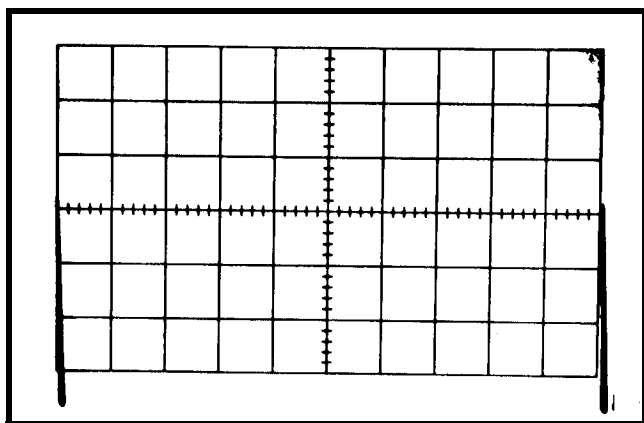

Fig. 6-47. Typical CRT display when checking delayed-sweep accuracy.
- b. Set the HORIZ DISPLAY switch to DELAYED SWEEP (B).
- c. CHECK-Using the A TIME/DIV switch, B TIME/DIV switch and time-mark generator settings given in Table 6-7, check delayed sweep accuracy within the given tolerance. First set the DELAY-TIME MULTIPLIER dial to 1.00 and rotate the dial until the sweep starts at the top of the second marker (see Fig. 6-47). Note the dial reading and then set the dial to 9.00 and rotate until the sweep starts at the top of the tenth marker. DELAY-TIME MULTIPLIER dial setting must be 8.00 divisions higher; + or - the allowable error given in Table 6-7.